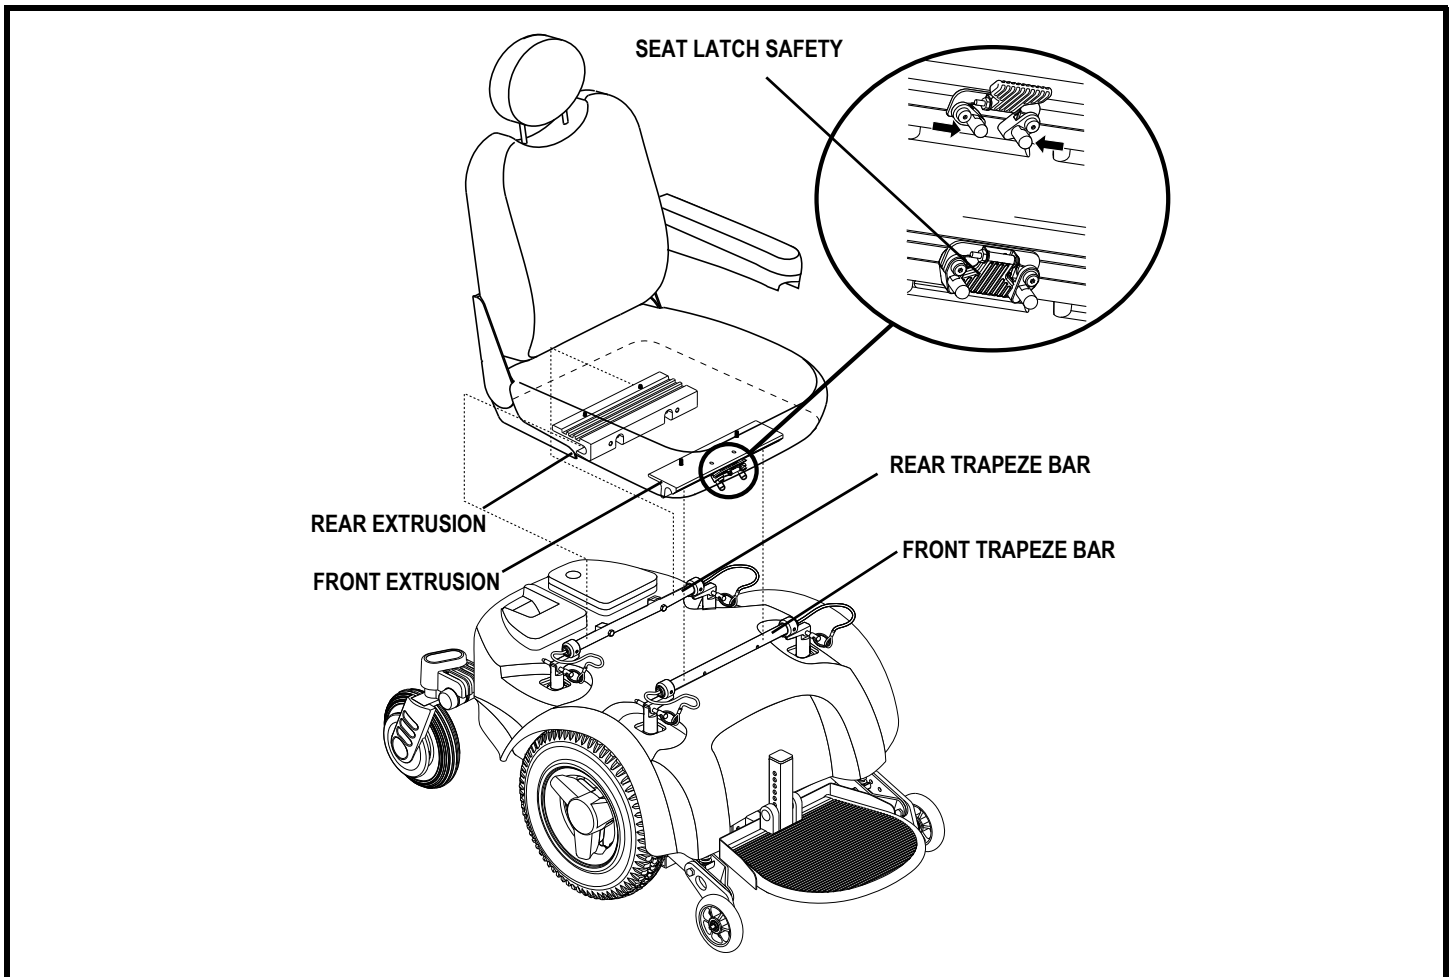

Figure 10. Seat Installation
It may be necessary to install the seat either prior to initial operation or after transporting your power chair. Most seats are attached to the power base with the Universal Mounting System (UMS). The UMS consists of universal parts that may be attached to any high-back seat, regardless of seat width or seat depth. The two main components are aluminum extrusions mounted to the seat base. These extrusions attach to a pair of trapeze bars that are mounted to the power base. See figure 10. If your power chair is equipped with a Synergy Seat or a TRU-Balance Power Positioning System, refer to the information provided in separate manuals.
2. Tilt the seat back and slide the rear extrusion onto the rear trapeze bar. See figure 10.